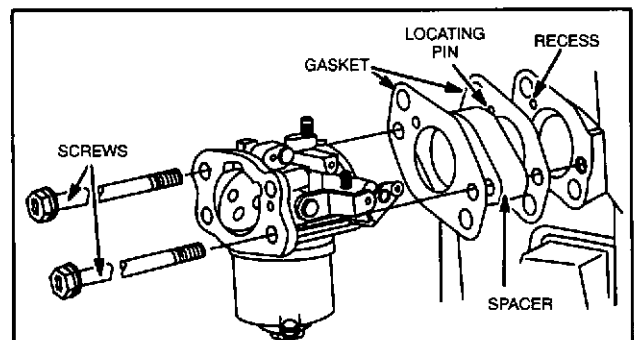

Fig. 81B - Installing Carburetor (Early Style)
**Early style:** Insert carburetor mounting screws through carburetor, gasket, spacer and gasket, and assemble to manifold. Fig. 81B. Make sure that locating pin on carburetor spacer fits in recess in manifold. Install carburetor on intake manifold and torque screws to 7 Nm (65 in. lb.).